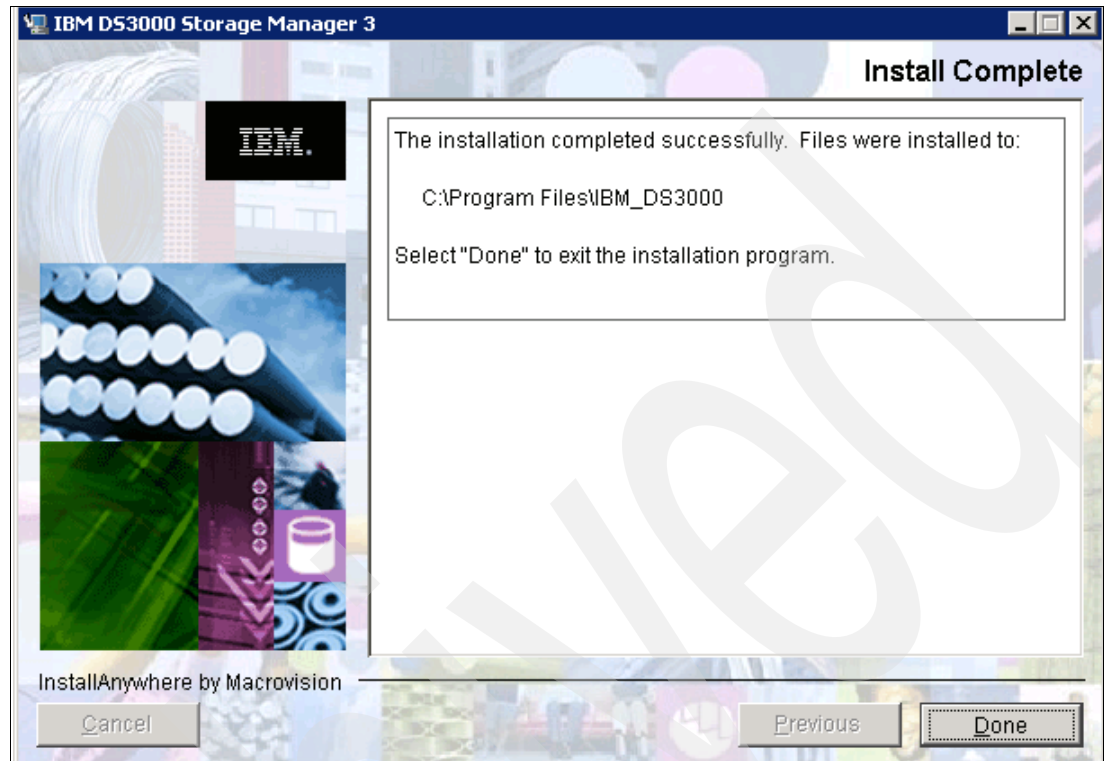

Figure 5-20 Installation Complete
11. When the installation finishes, the Install Complete window appears. Click **Done** to exit the installation utility, as shown in Figure 5-20.